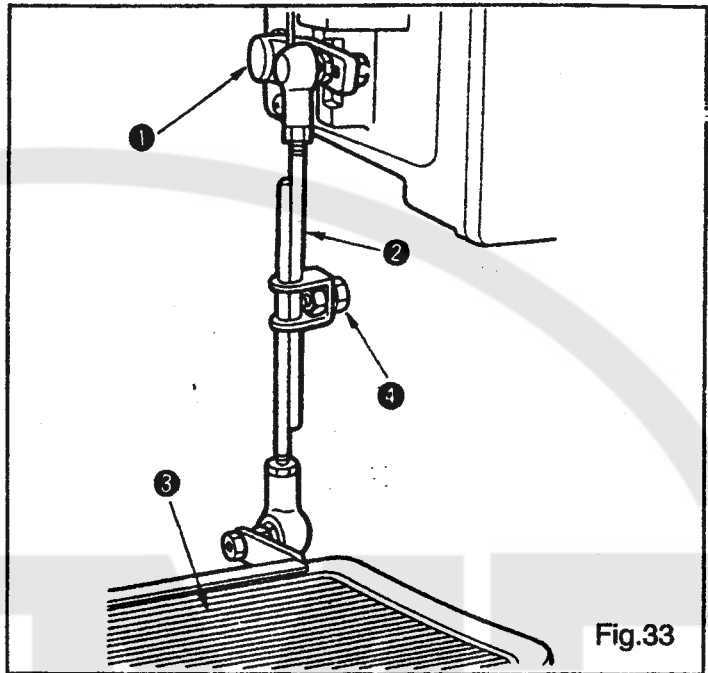

Fig.33
28.ADJUSTMENT OF THE PEDAL(Fig.33)